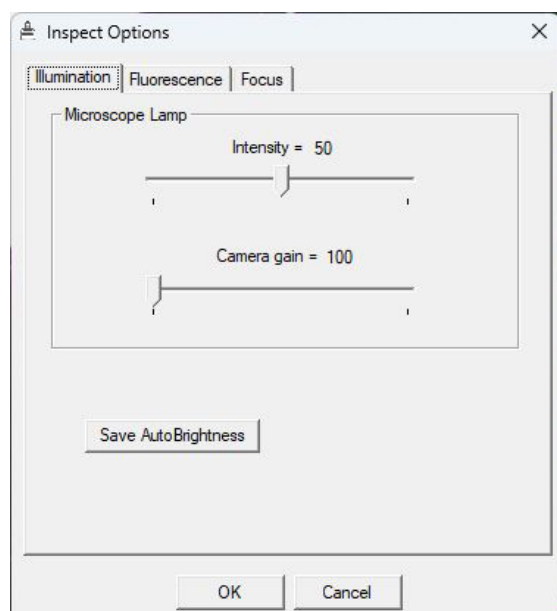

Figure 12
Note: The brightness value corresponds to the shutter speed/exposure time of the camera. If the value in the brightness control is >0.5 seconds, the time that is needed for the main image window to refresh after you move the stage can be slow. If so, in the **Inspect Options**  **Illumination** tab, adjust the Intensity and Camera Gain to set the brightness value lower. (See Figure 12.)
3. Click the **Illumination** tab (see Figure 12).